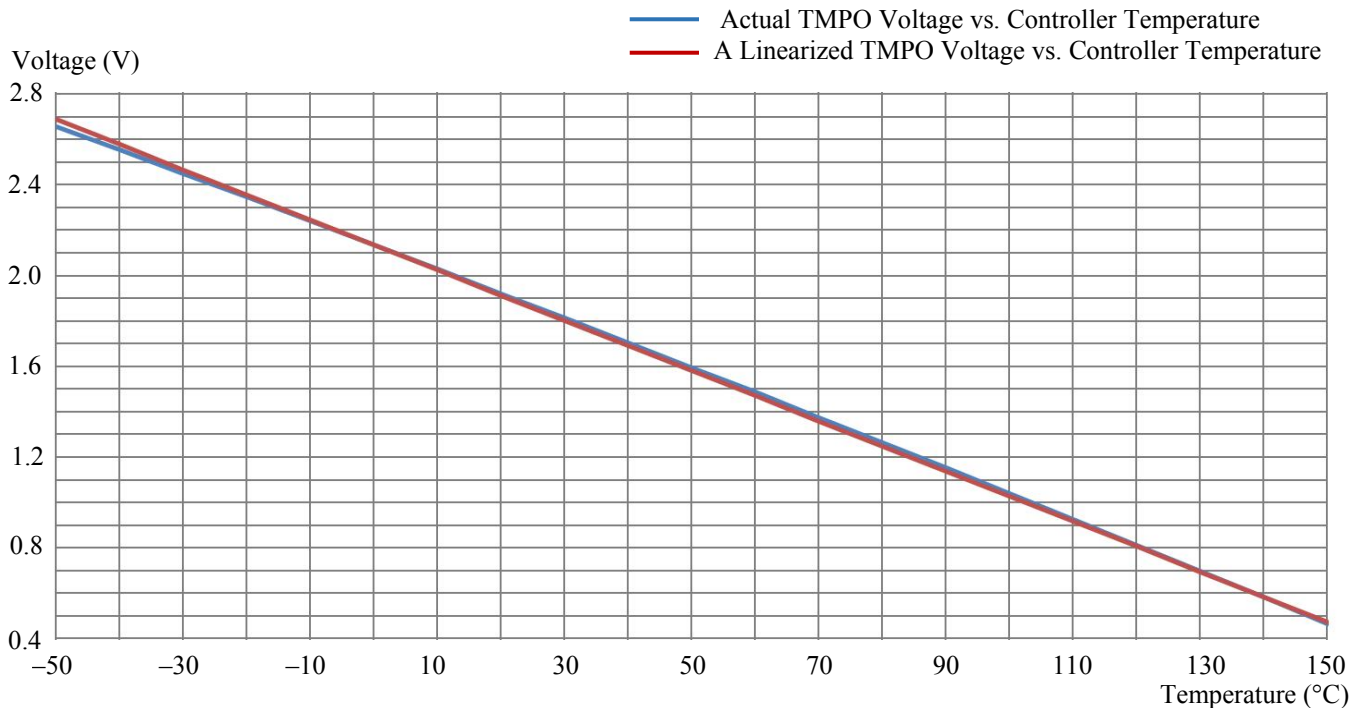

Figure 24. Controller Internal Temperature vs. TMPO Voltage
between 0°C to 100°C, the maximum error occurs at about 1.5V, at which the temperature error between the calculated data by using the formula (1) and the approximated data obtained by using the linear equation (2) is about 0.4°C, with the linear data being a little lower. The curves of the 2 sets of the data are plotted in Figure 24.